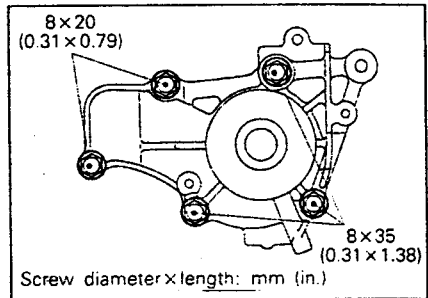

Fig. 3.4. — Front view of the water pump with the position of the different bolts and their length (1.8 litre).
- Remove the five bolts securing the water pump. Note that not all bolts are of the same length. Either mark the position of each bolt or refer to Figs. 3.4 to 3.6 for the correct length. Note that not all bolts have the same length.